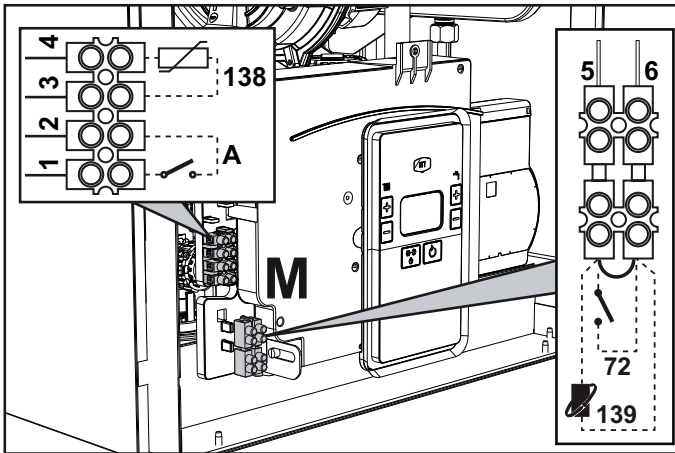
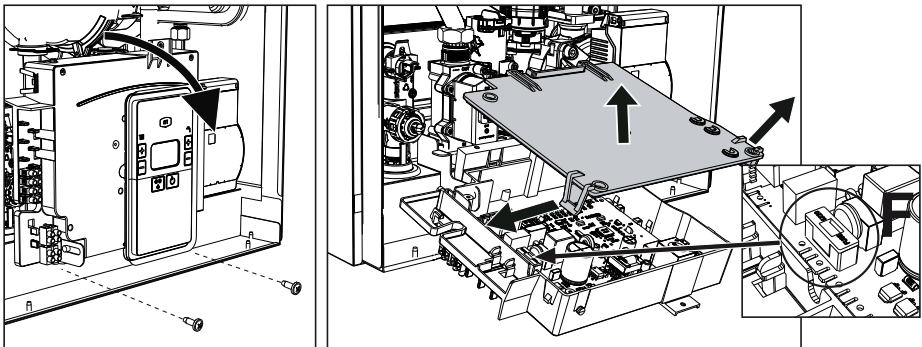

fig. 18
fig. 19
Remove the front panel (*** 'Opening the front panel' on page 262 ***) to access the terminal block (M) and fuse (F) by proceeding as follows (fig. 18 and fig. 19). **The terminals indicated in fig. 18 must be with voltage-free contacts (not 230V).** The arrangement of the terminals for the various connections is also given in the wiring diagram in fig. 44.
ON/OFF (A fig. 19) configuration